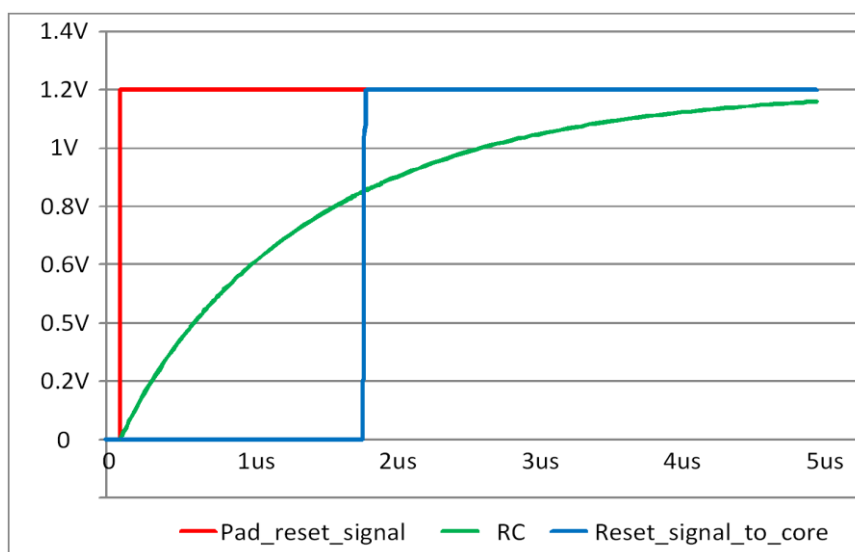

Figure 10: RST Pad Latency
The DA14586 comprises an RST pad which is active high. It contains an RC filter for spikes suppression with 400 k Ω and 2.8 pF for the resistor and the capacitor respectively. It also contains a 25 k Ω pull-down resistor. This pad should be connected to ground if not needed by the application. The response is illustrated in the Figure 10 which displays the voltage (V) on the vertical axis and the time (μ s) on the horizontal axis: